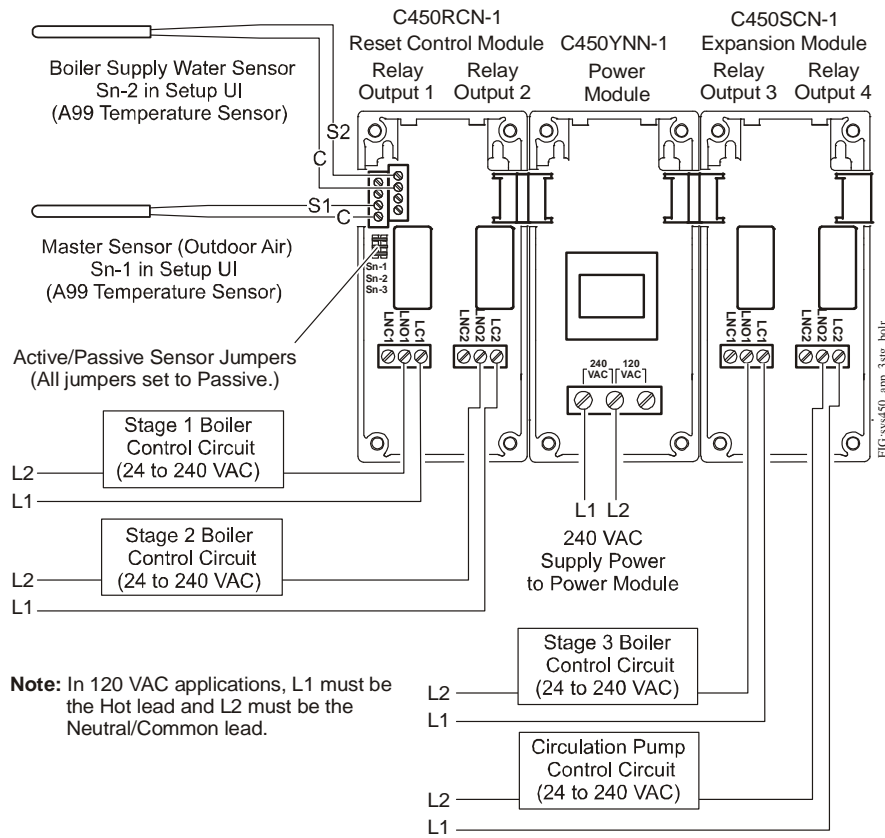

Figure 3: System 450 Reset Control System Example for a Three-Stage Boiler with or without Load Balancing (See Figure 9.)
- Mount the modules upright and plugged together in a horizontal row where possible (Figure 3). DIN rail mounting is highly recommended.
3. Clip the remaining power and/or expansion modules to the right of the control module on to the DIN rail and plug the 6-pin module connectors together (Figure 3).
Sn-1, Sn-2, Sn-3	Accepts passive or active (0-5 VDC) input signals from sensors. Note: In System 450 reset control systems, Sn-1 is the Master sensor (typically an outdoor air temperature sensor) and Sn-2 is the controlled loop sensor (a temperature or humidity sensor). Note: You must position the Active/Passive Sensor Jumper (Figure 3 and Figure 5) correctly for each sensor in your control system before operating the system. See Setting Active/Passive Sensor Jumpers for more information.
A System 450 reset control system consists of one reset control module, one to three input sensors, and one to ten outputs that provide any combination of (On/Off) relay control or (0–10 VDC or 4–20 mA) analog control. Figure 3 shows a reset control system for two boilers, a boiler water circulation pump, and an outside air damper.
Before putting your System 450 reset control system into operation, you must set up each sensor in your system as either passive or active by positioning the jumper on the terminal pins on the terminal block located below the sensor terminal block. See Figure 3.
Figure 5 shows the jumper positions for the System 450 Reset Control example shown in Figure 3.